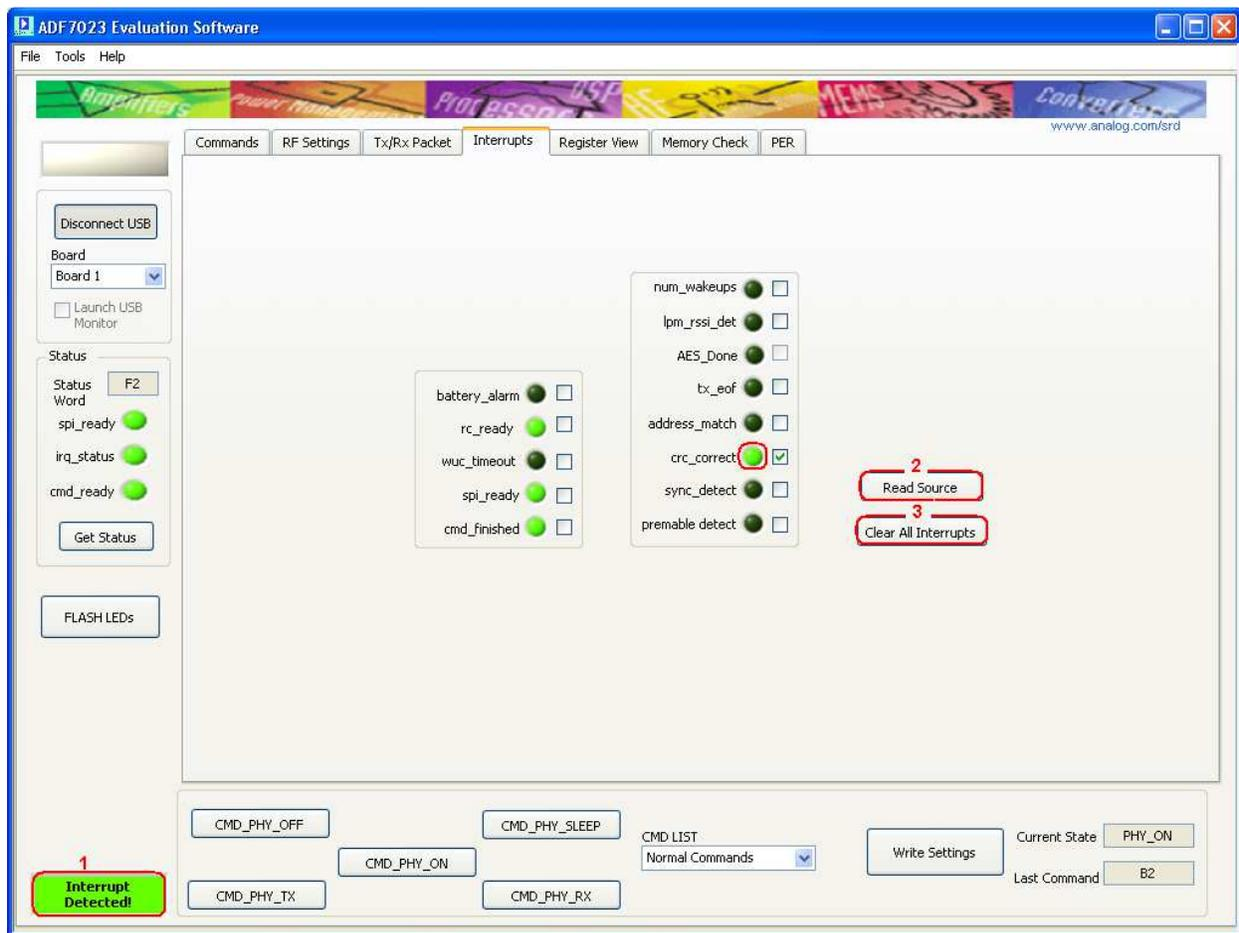

Figure 38
Once the Transmitter has transmitted a packet you should now see “Interrupt Detected!” on the Receiver software instance. (Figure 38 point (1))
To check the source of the interrupt, click “Read Source” (Figure 38 point (2))
To Clear the interrupt status click “Clear All Interrupts” (Figure 38 point (3))